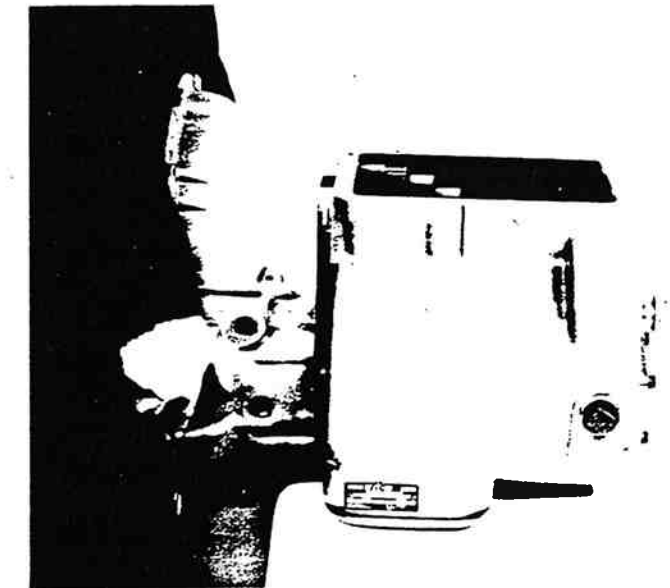

Figure 13-31. Pulling Clutch Housing from Transmission Case.
3. Break gasket seal and pull clutch housing from case (figure 13-31).